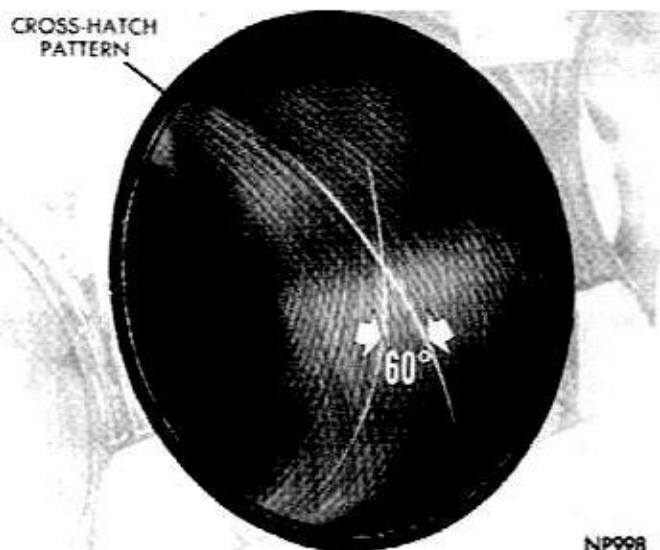

Fig. 35—Cross Hatch Pattern
(1) Used carefully, the cylinder bore resizing hone C-823 equipped with 220 grit stones and 390 extensions necessary with 383 and 440 cubic inch engines is the best tool for this job. In addition to deglazing, it will reduce taper and out-of-round as well as removing light scuffing, scoring or scratches. Usually, a few strokes will clean up a bore and maintain the required limits.
(2) Deglazing of the cylinder walls may be done using a cylinder surfacing hone, Tool C-3501, equipped with 280 grit stones (3501-3810) if the cylinder bore is straight and round. 20 to 60 strokes depending on the bore condition will be sufficient to provide a satisfactory surface. Inspect cylinder walls after each 20 strokes. Use honing oil C-3501-3880 or a light honing oil available from major oil distributors. **Do not use engine or transmission oil, mineral oil or kerosene.**
(3) Honing should be done by moving the hone up and down fast enough to get a cross-hatch pattern. When hone marks intersect at 60° , cross hatch angle is most satisfactory for proper seating of rings (See Fig. 35).
(4) After honing, it is necessary that the block be cleaned again to remove all traces of abrasives. Wash cylinder block and crankshaft thoroughly.